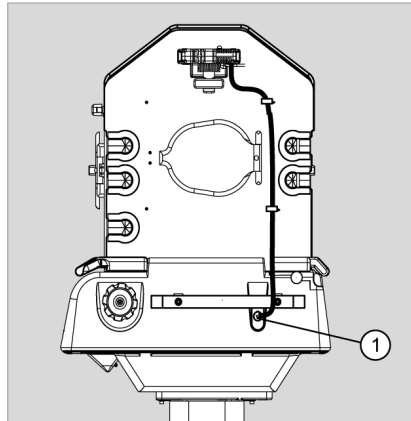

Fig. 42 Side view of Isolette®: sensor module connector
- 4 Disconnect the sensor module cable (Fig. 42/1) from the upper shell assembly.